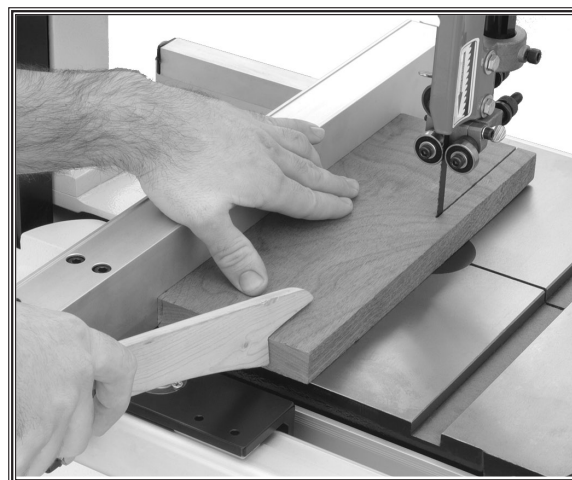

Figure 43. Example of a typical ripping operation with a push stick.
3. After all safety precautions have been met, turn the bandsaw **ON**. Slowly feed the workpiece into the blade and continue with the cut until the blade is completely through the workpiece. **Figure 43** shows a typical ripping operation.